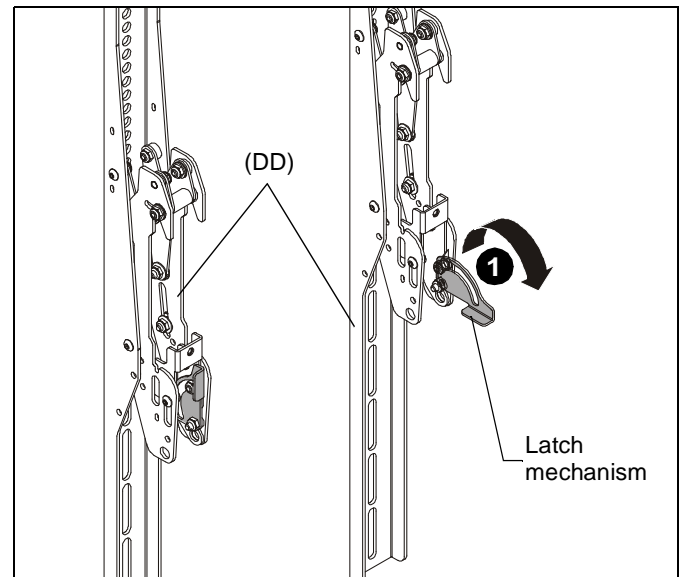

Figure 5
1. Lower the latch mechanism on all interface brackets (DD). (See Figure 5)
- Ensure that the latch mechanisms on interface brackets (DD) are already lowered. (See Figure 5)